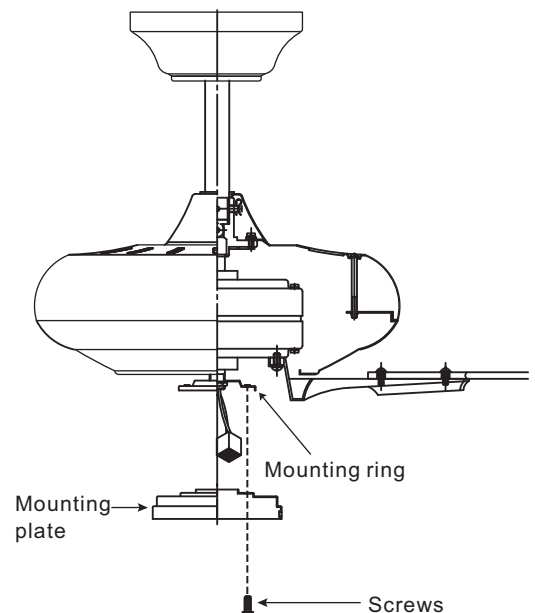

Figure 18
2. Place the key holes on the mounting plate over the 2 screws previously loosened from the mounting ring, turn mounting plate until it locks in place at the narrow section of the key holes. Secure by tightening the 2 screws previously loosened and the one previously removed. (Figure 18)